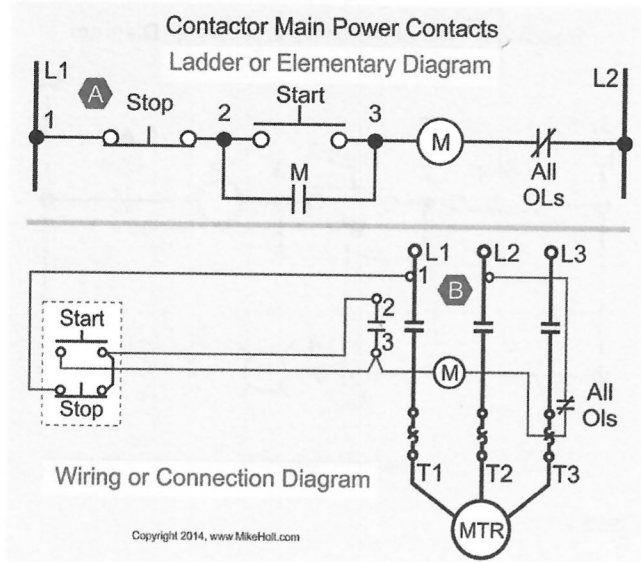

Figure 2
57. In Figure 2, the main power contacts are ____.
58. In Figure 2, the power for the control circuit is taken from ____.
59. In Figure 2 when the start PB is pushed, the M coil ____.